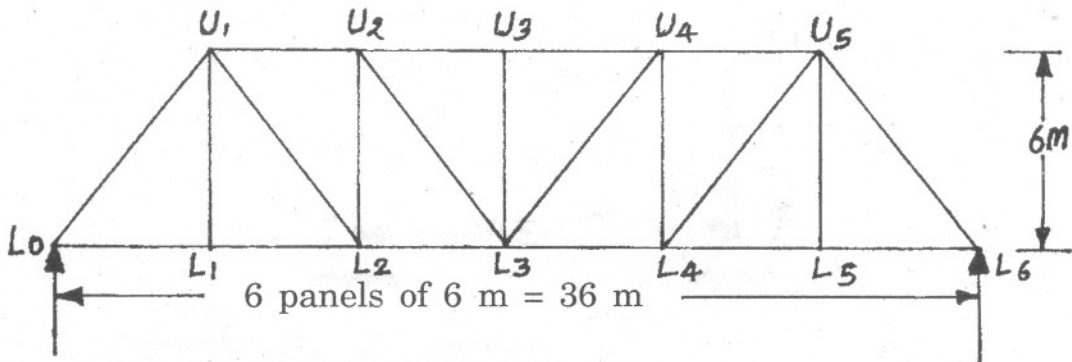

Fig. 11
10. (a) A warren truss 36 m span is made up of six panels of 6 m each, the height of the truss is 6 m as shown in Fig. 11. Draw the influence lines for the axial force in the members  $U_2U_3$ ,  $L_2L_3$ ,  $U_2L_3$  and  $U_3L_3$ . [8]